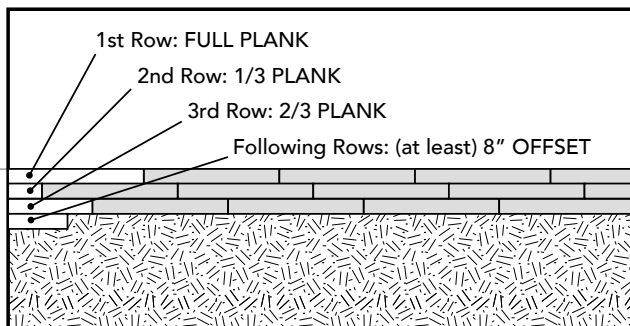

FIGURE 23 Plank layout
- Thereafter install planks in a random layout offsetting end joints by at least 8". (Fig.23)